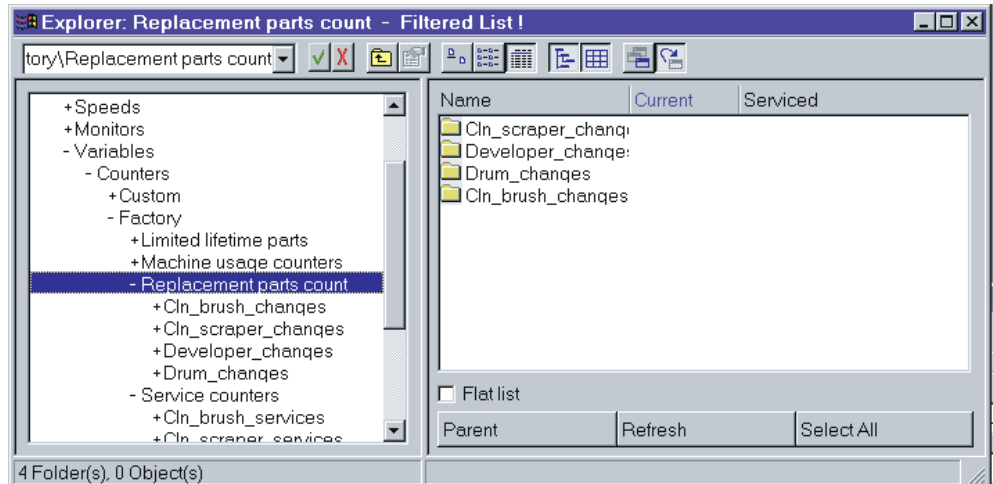

Figure 226. Replacement Parts Counters Window
3. Click again on **Replacement parts counters** and you will see the counters in the list view or right side of the **Replacement parts counters** window, as shown in Figure 226 on page 260. The counters are described in Table 78 on page 260.